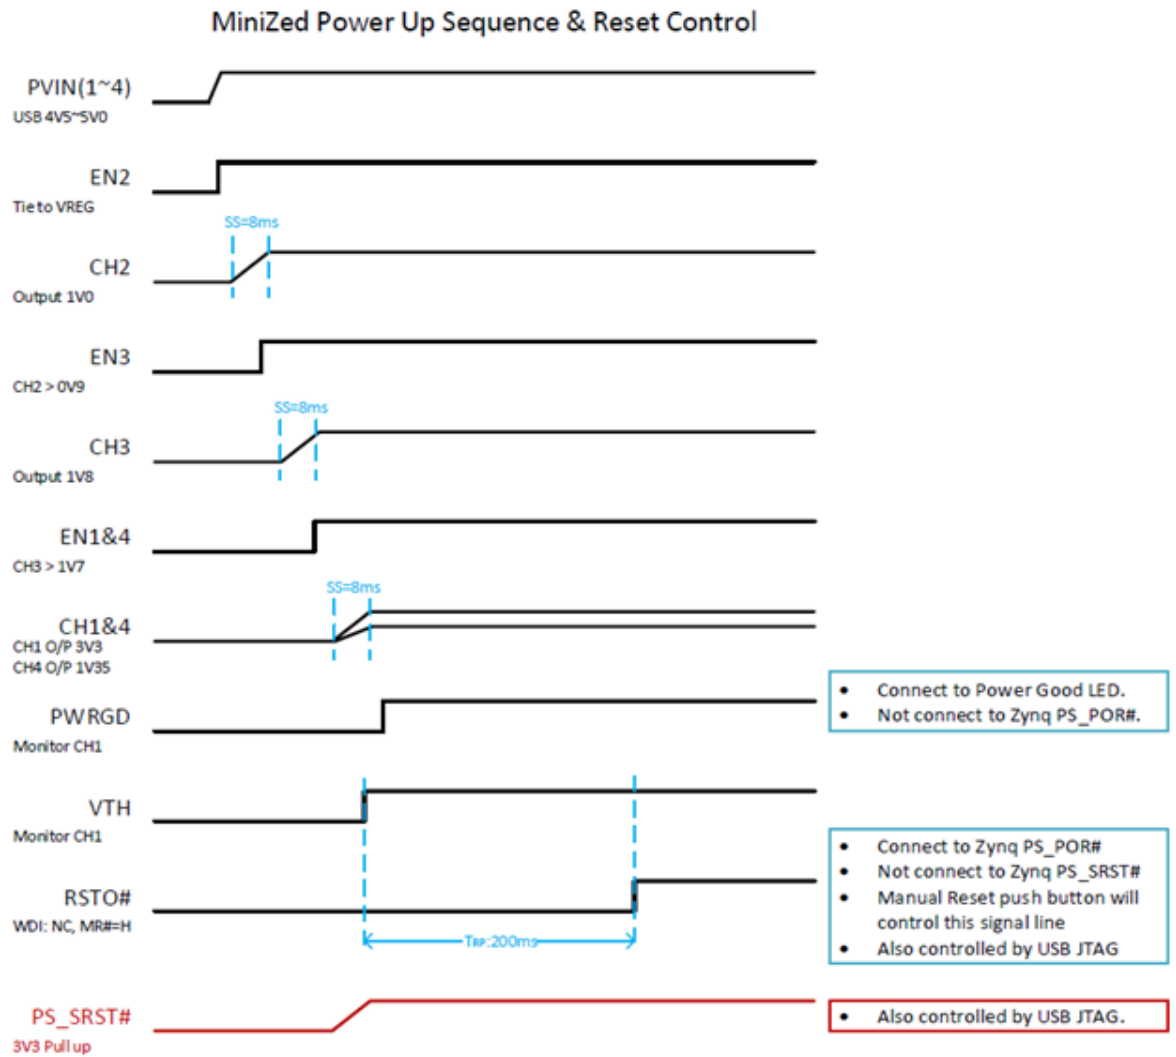

Figure 8 – Power-on and Reset Timing
- $1V \rightarrow 1.8V \rightarrow 1.35V/3.3V/0.68V$ For graphical representation see Figure 8